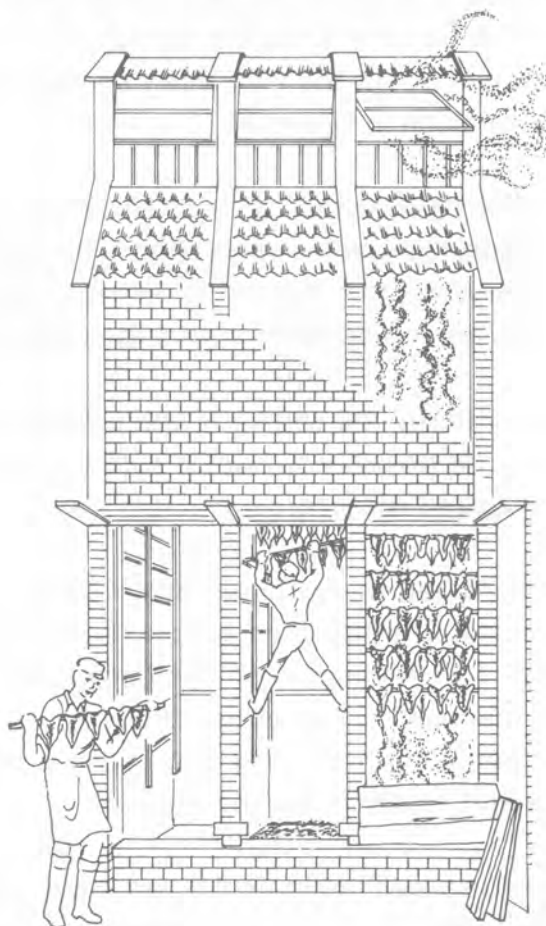

Figure 13 Traditional Kiln
- To even out the process the rails of fish have to be moved during smoking. This is an unpleasant and difficult task. The lower rails are removed from the kiln when they are judged to be of the right colour and texture. The fish on the higher rails are then brought lower down the kiln. You can see this operation in Figure 13.
The traditional kiln shown in Figure 13 has a baffle on the chimney opening which is designed to prevent down draughts.